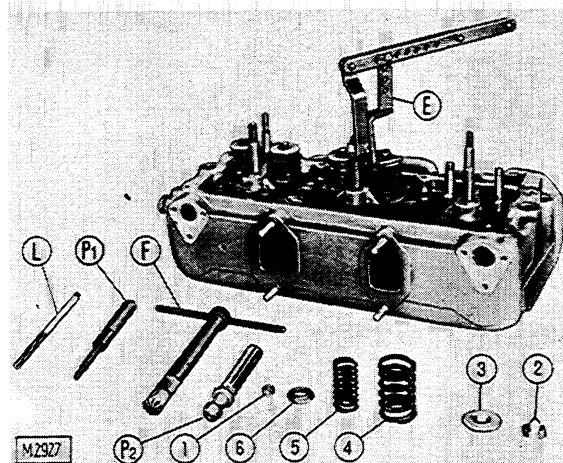

Fig. 20 - Removing or installing valves.
- Compress springs using tool (E, fig. 20) and remove valve spring retainer locks (2).
When replacing valve guides, use installer/remover **75291496** (P₁, fig. 20), together with a suitable press.
- After they are pressed into the cylinder heads, valve guides should be reamed using reamer **75291499** (L, fig. 20).